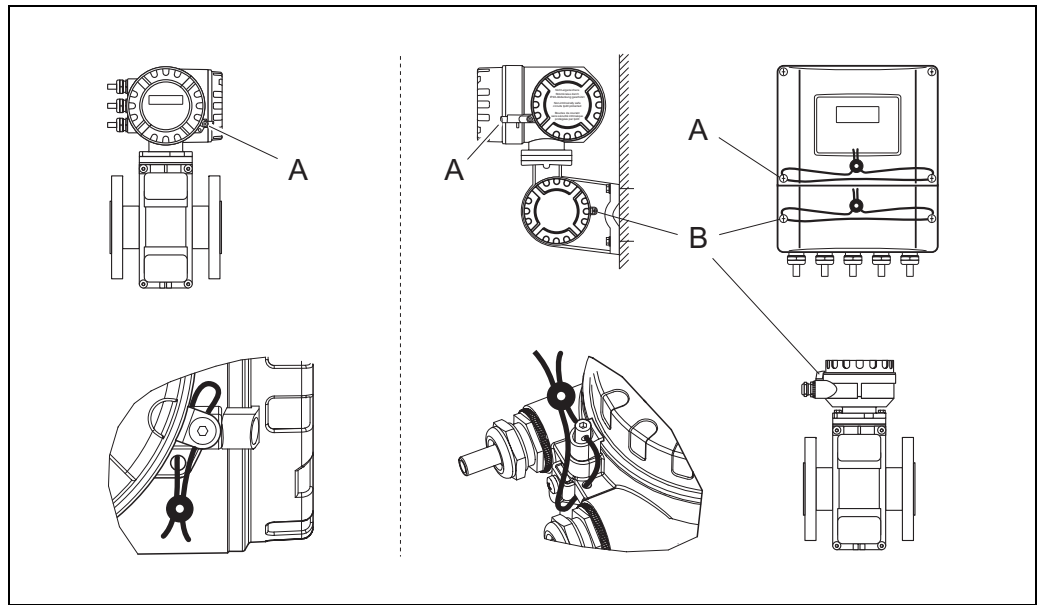

Fig. 41: Examples of how to lead-seal the various device versions.
2. Break the lead seal and loosen the sealing screws (→ Fig. 41, A).